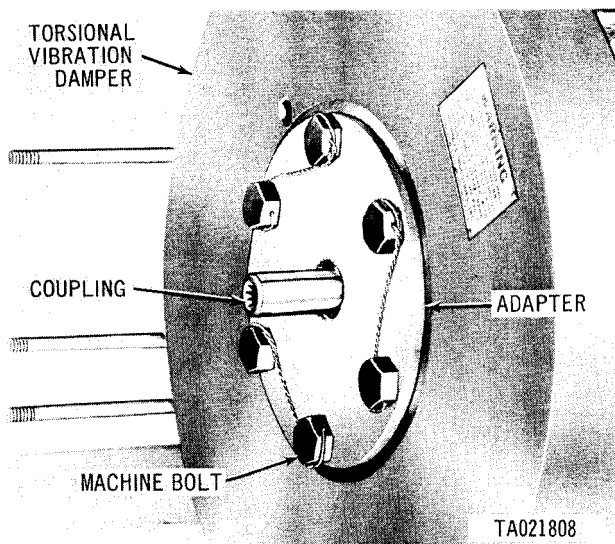

Figure 3-110 Removing or installing fuel pump drive coupling adapter and coupling model AVDS-1790-2C and AVDS-1790-2D engines.
a. Cut locking wire and remove six bolts (fig. 3-110) attaching fuel pump drive coupling adapter and crankshaft torsional vibration damper to crankshaft and remove adapter and fuel pump drive coupling.